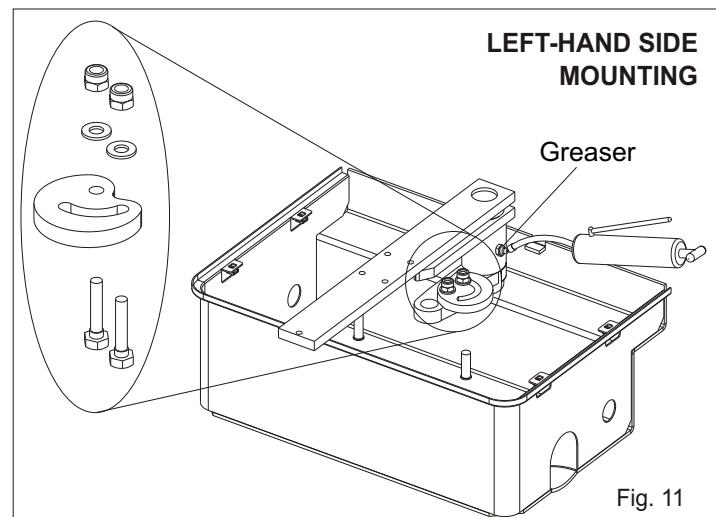
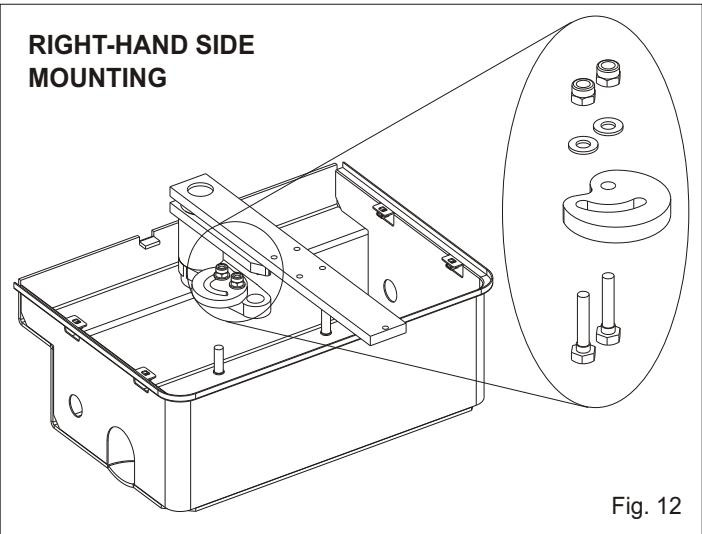

Fig. 11
Fig. 12
2.7. Insert the cam of the limit switch into the handle bar and fix it with the special screws (left-hand side mounting Fig. 11, right-hand side mounting Fig. 12)
When putting in function the installation it is peremptory to lubricate the box as in Fig. 11 until the grease comes out. (Use grease type DIN 51502 KP 2 N-20 - K2 K-20).